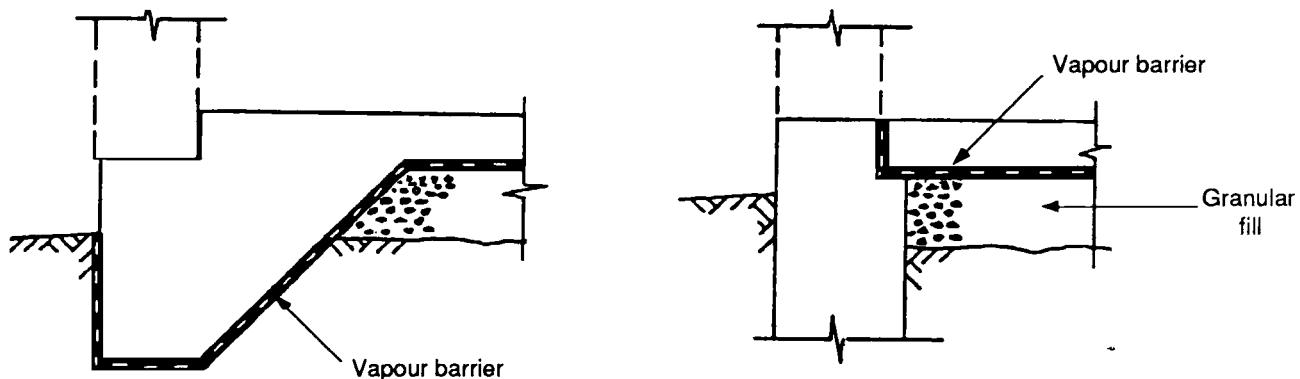

FIGURE D5.1.5 EDGE THICKENING OF CONCRETE SLAB-ON-GROUND FLOORS
- D5.1.3 Concrete slab-on-ground floors must have their edges thickened (see Fig. D5.1.5) along the entire perimeter of the wall.
- D5.1.5 Slab-on-ground floors must have a continuous vapour barrier between the ground and the slab as shown in Figure D5.1.5.